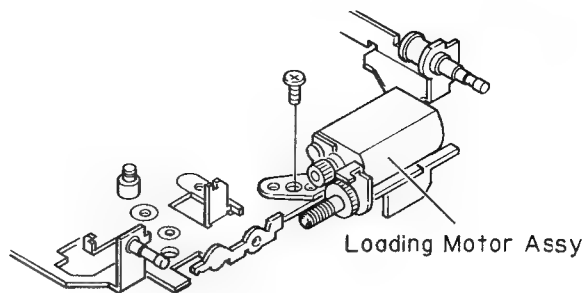

Fig.17
- 12.Remove the screw, and then remove the loading motor assy.(Fig.17)